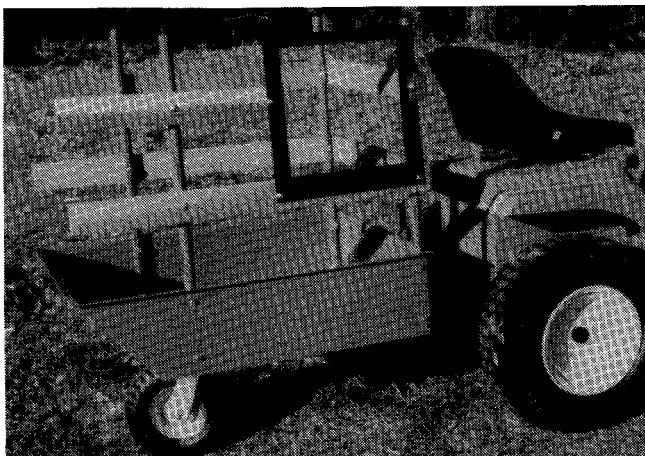

Figure 21.
- The cover can be removed entirely from the cart. Unhook the rubber strap at the back of the cart and pull the pockets at the end of the cover away from the ends of the boards before lifting the entire cover off the cart (figure 21).